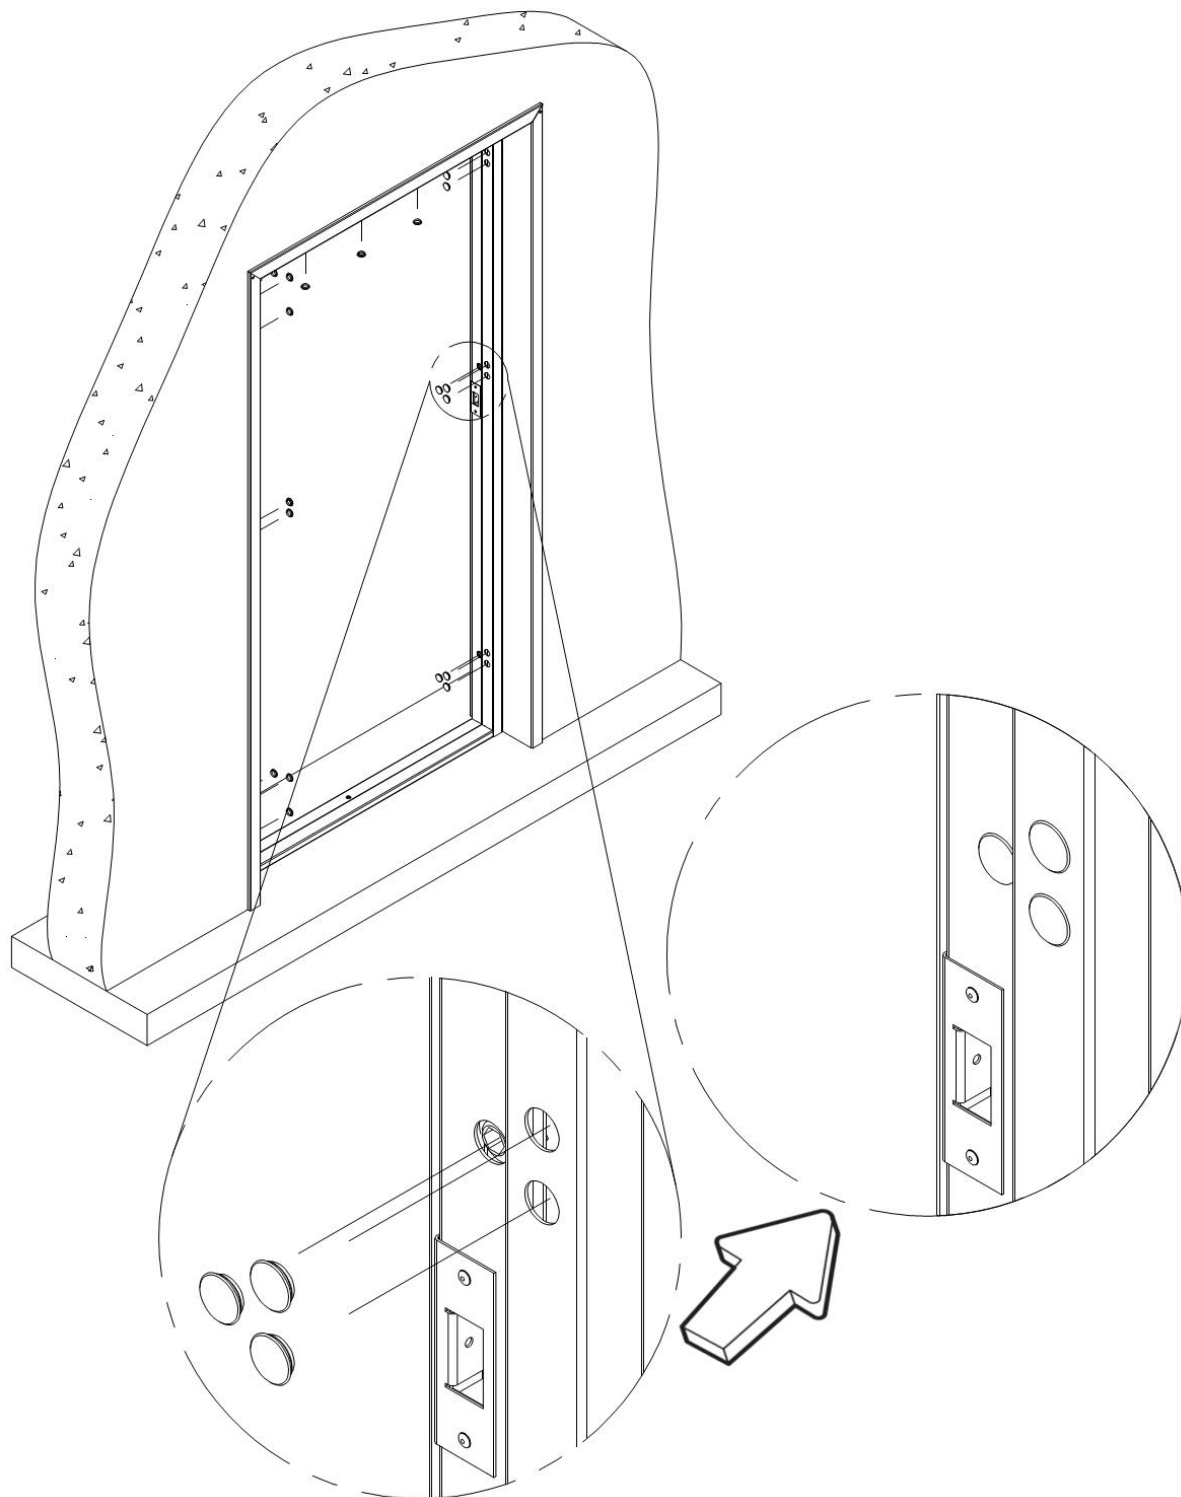

Figure 2.7 Inserting plastic caps.
10. Cover the \varnothing 19 mm holes in the jamb with plastic caps. (Figure 2.7)